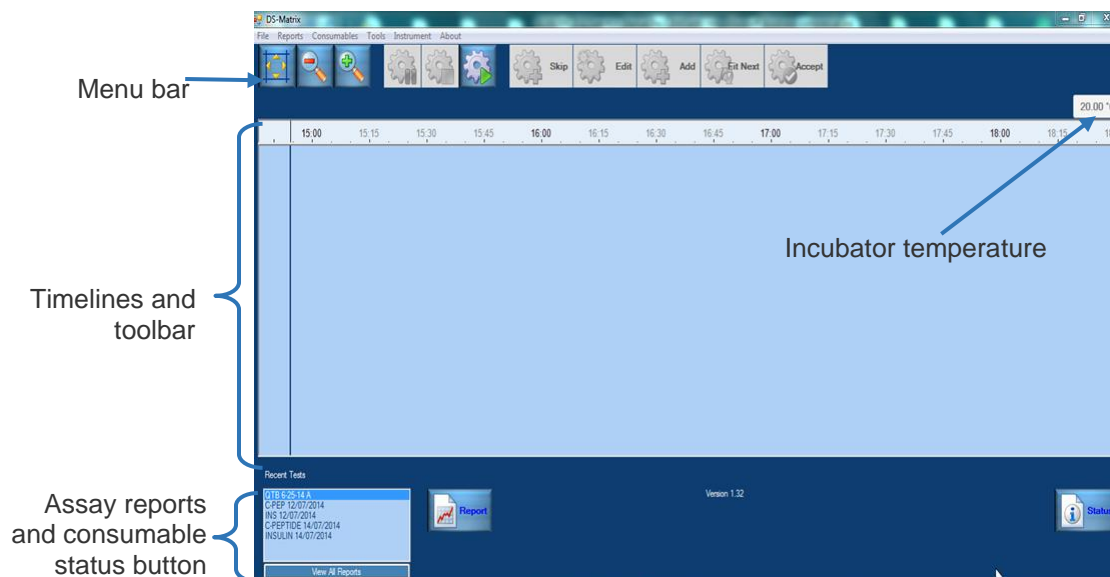

Figure 26: DS-Matrix Software Main Screen
- a. If **Normal Mode** was selected for the run mode, the instrument will initialize, perform self-testing and display the self-test report (Chapter 5.1 step 5). Close the self-test report to display the DS-Matrix software main screen (Figure 26).
- b. If **Simulation Mode** was selected for the run mode, the DS-Matrix software main screen (Figure 26) is displayed without initializing the instrument.